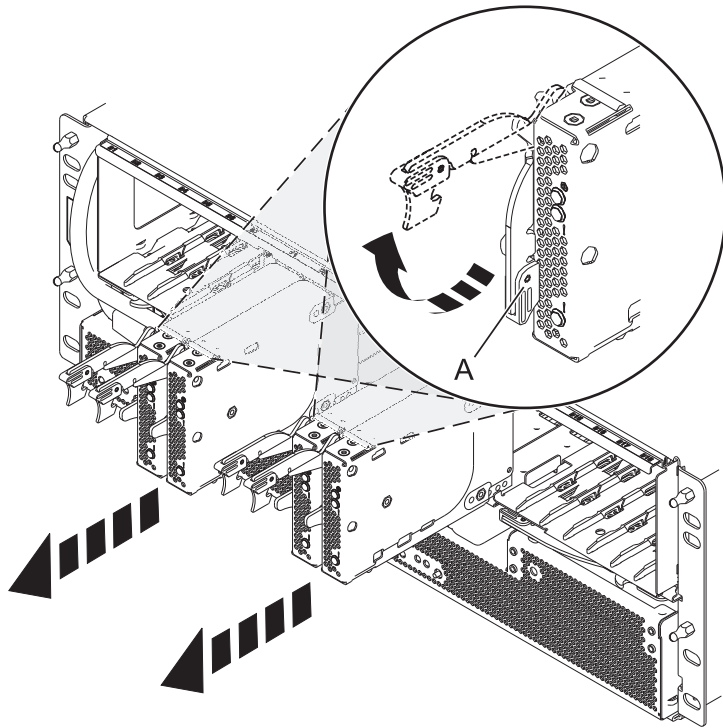

Figure 36. Removing the port card from the backplane
7. Remove the port cards and fillers from the backplane in the 5802 expansion unit as shown in Figure 36 on page 35.
- a. Grasp the end of the latching handle (A) and pull it upward to unlock the port card.